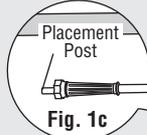

Fig. 1c
- Do not remove placement posts (**Fig. 1c**).